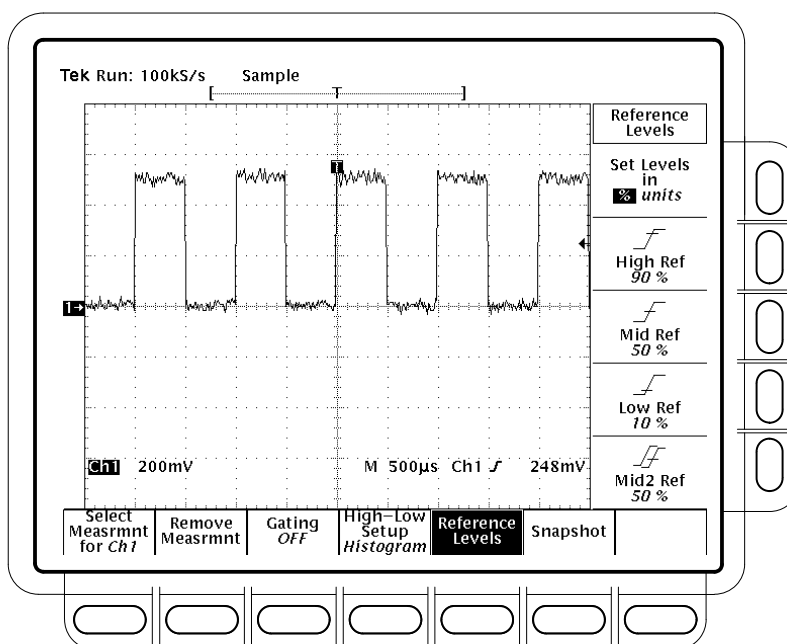

Figure 3–55: Measure Menu — Reference Levels
1. Press **MEASURE** → **Reference Levels** (main) → **Set Levels** (side) to choose whether the References are set in % relative to High (100%) and Low (0%) or set explicitly in the units of the selected waveform (typically volts). See Figure 3–55. Use the general purpose knob or keypad to enter the values.